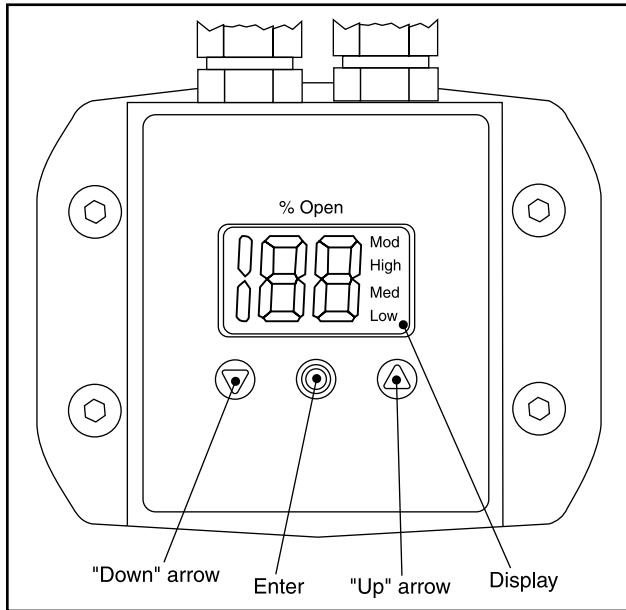

Figure 23
The setting of parameters is managed by means of the integrated ICAD (Figures 23 and 24) and consists of:
- "Down" arrow push button (Figures 23 and 24)
- "Up" arrow push button (Figures 23 and 24)
- Enter push button (Figures 23 and 24)
- Displays the function status by means of text (Figure 23).
- If an alarm has been detected the ICAD display (Figure 23) will alternate between showing Actual alarm and present Opening Degree.
5. When the display on ICAD (Figure 23) is alternating between showing: **CA** and **A1** the factory resetting is complete.